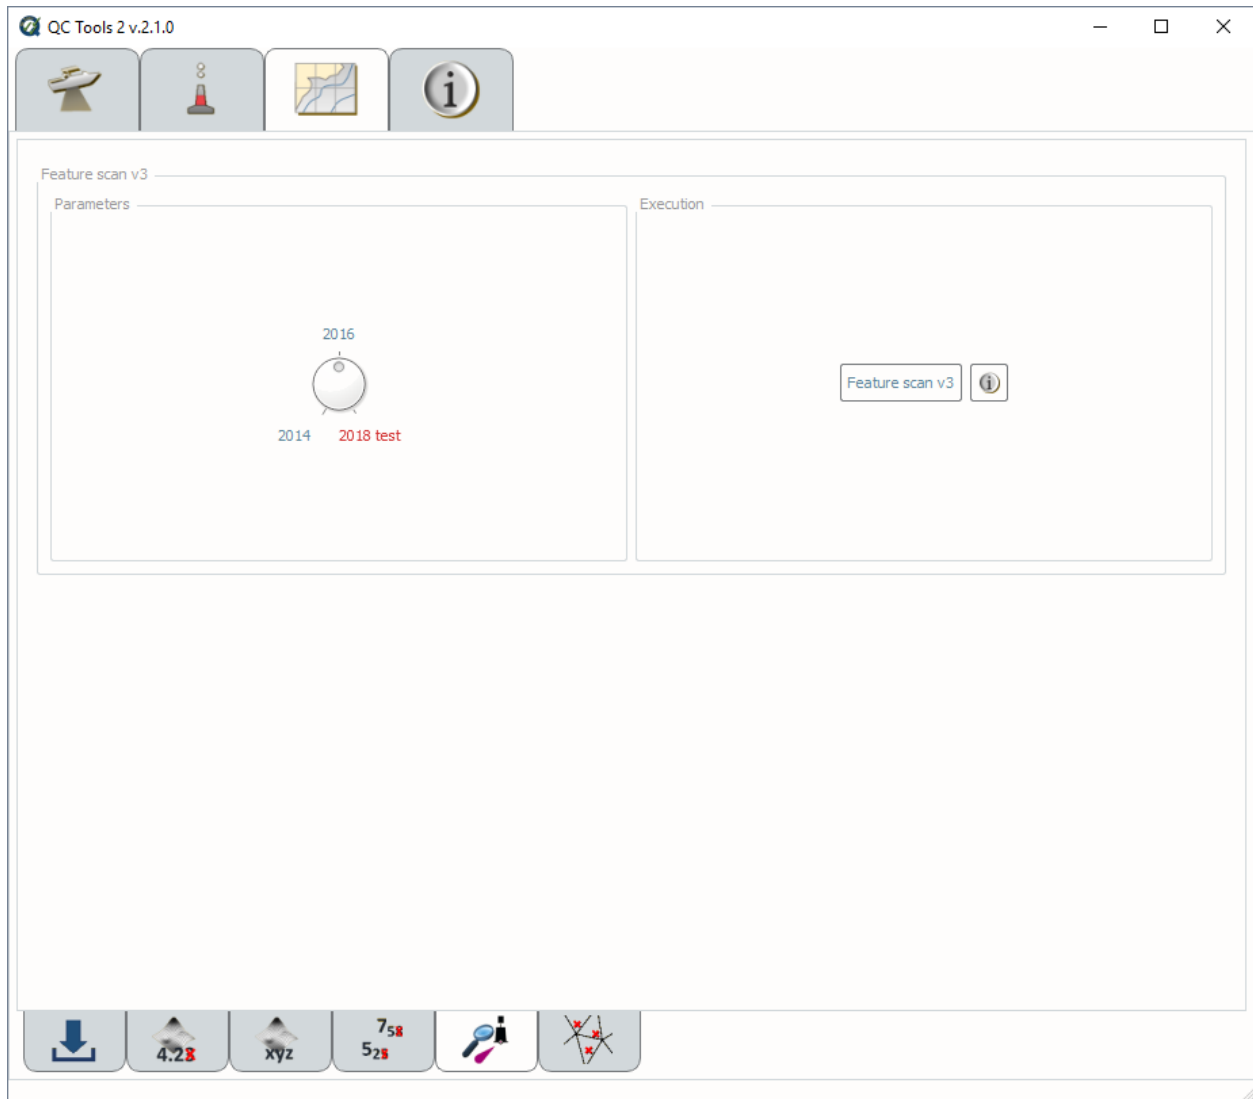

Fig. 2.39: Feature scan's interface.
- In **Parameters** (Fig. 2.39, left side), turn the knob to select the required year of HCell Specification. Currently, the '2018 test' is duplicative to 2016.
- In **Execution** (Fig. 2.39, right side), click **Feature scan v2**.